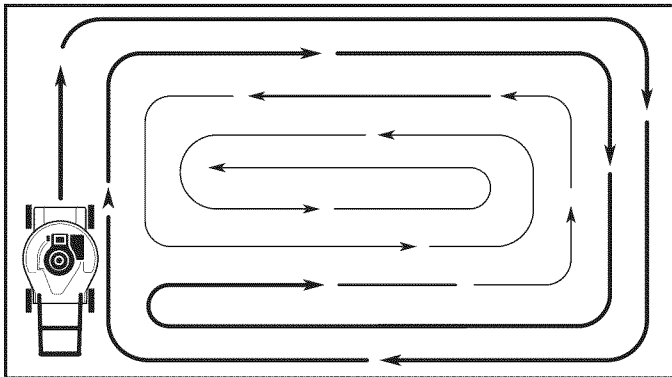

FIG. 11
- For side discharge operation, cut in a counterclockwise direction, starting at the outside of the area to be cut, in order to spread grass clippings more evenly and to put less load on the engine. To keep clippings off of walkways, flower beds, etc., make the first cuts in a clockwise direction (See Fig. 11).